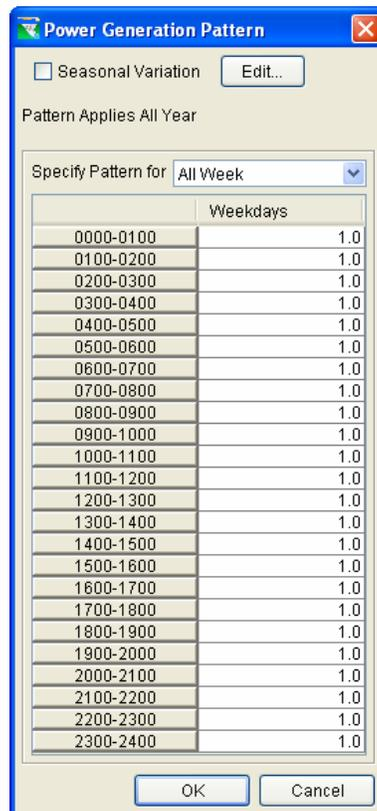

Figure 11.39 Power Generation Pattern (All Week)
- The **All Week** option (Figure 11.39) simply applies the same power generation pattern for every day of the week.